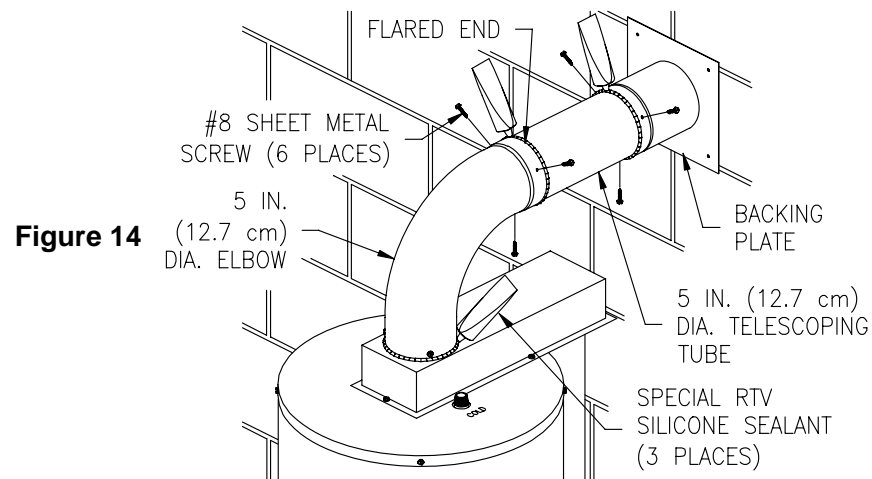

Figure 14
11. From inside the building, slide the backing plate over the five (5) inch (12.7 cm) diameter telescoping tube until it is flush with the wall. Adjust the length of the five (5) inch (12.7 cm) diameter telescoping tube and insert the end into the flared end of the five (5) inch (12.7 cm) diameter elbow one (1) inch (2.5 cm) (or until seated). Drill three (3) 1/8 inch diameter holes, 120° apart, through the five (5) inch (12.7 cm) diameter elbow into the five (5) inch (12.7 cm) diameter telescoping tube and through the tubes where the small and large sections overlap. Fasten with three (3) #8 sheet metal screws (supplied). Using the supplied special RTV silicone sealant, apply a sufficient amount to seal all joints (See Figure 14).